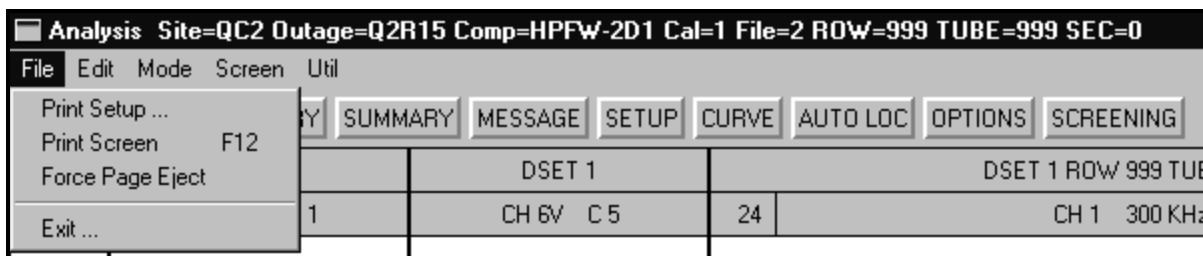
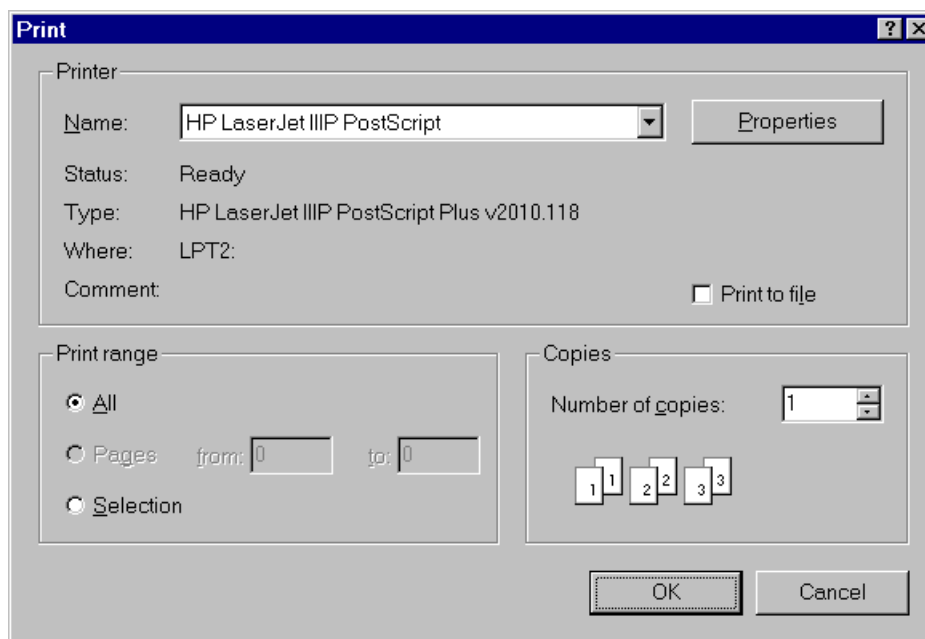

Figure 3-5. File Menu
Figure 3-6. Print Setup Window
As shown in Figure 3-5, the **File** menu contains four (4) choices. They are: **Print Setup ...**, **Print Screen (F12)**, **Force Page Eject**, and **Exit ...**.
- ❑ **File > Print Setup ...:** As the name implies, selecting the **File > Print Setup ...** menu item in Figure 3-5 causes the typical Windows® Print window to appear as shown in Figure 3-6. Using this window, the printer's parameters can be set as desired. In order to access other printer settings, i.e., landscape, portrait, etc., select the **Properties** button. Once the print parameters are set as desired, all successive screen dumps will print based on these settings until changed.
- ❑ **File > Print Screen (F12):** As the name implies, selecting the **File > Print Screen (F12)** menu item in Figure 3-5, causes the system to print the currently displayed analysis window to the default printer. The layout of the resulting printout is determined by other settings that will be covered later in this section (*see Options Button*). The driver for the selected printer must be installed on the computer for **Print Screen** to function properly. The shortcut key on the keyboard for **Print Screen** is the **F12** function key.
- ❑ **File > Force Page Eject:** Selecting the **File > Force Page Eject** menu item in Figure 3-5 causes all current graphics being held in the computer's memory to be sent immediately to the default printer. Later in this section, you'll learn how to set the print function for one, two, three, or four graphics per page (*see Options Button*). If the print function is set for more than one graphic per page, graphics are held in memory each time the **Print Screen** function is selected. When the specified number of graphics equals the number selected per page, the printout is then sent to the printer. The **Force Page Eject** function allows the user to print the graphics currently stored in memory regardless of the number of graphics per page setting.
- ❑ **File > Exit ...:** Selecting the **File > Exit ...** menu item in Figure 3-5 displays a warning message box asking you to confirm your desire to close the Analysis software. Clicking **Yes** closes the program while clicking **No** leaves the program open. Clicking the 'X' button in the upper right corner of the window immediately closes the program with no warning.